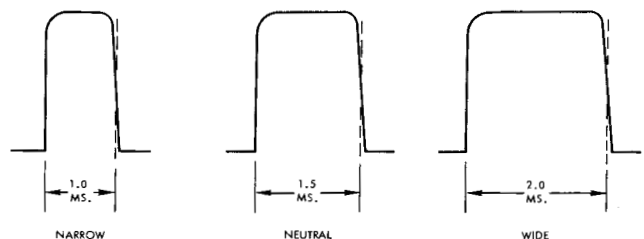

Figure 37. Channel Waveform Adjustments
- 180. Turn Tx ON. Connect scope probe between battery minus (on switch) and loop (4) on logic board. Waveform should appear as (4) on schematic diagram, to denote correct operation of multivibrator Q1, Q2.
- 181. Connect scope probe to loop (7). Set sweep time to 0.5 msec/cm. Adjust scope controls for stable picture. Compare result with waveforms shown on schematic figure 19 and those on figure 37.
- 182. Adjustments will now be made to obtain waveform timing shown in figure 37. With Channel 1 (aileron) controls, including front trim, in neutral, pulse width should be 1.5 milliseconds. If not, reposition trim lever (A) by hand slightly left or right until this width is obtained on scope. Make sure front controls remain at neutral.
- 185. If the difference in pulse width between steps 183 and 184 exceeds one millisecond total, rotate trim pot (B) clockwise a few degrees until total swing with full control movement is about one millisecond. Rotate trim pot (B) counterclockwise if pulse width swing is less than one millisecond.
- 186. Center Channel 1 front controls, then readjust trim lever (A) for 1.5 millisecond neutral pulse.
- 187. Check Channel 1 pulse again with controls in each extreme. Continue adjustment of trim pot (B) until total pulse swing is one millisecond, and trim lever (A) until correct pulse travel of one to two milliseconds is obtained.
- 188. Connect scope probe to loop (10). In same manner as above, adjust trim lever (C) and trim pot (D) until Channel 2 calibration is obtained.
- 189. On 2-stick, four-channel transmitter, similarly align Channel 3 by using loop (13), lever (E) and trim pot (F). Use loop (16), lever (G) and trim pot (H) to calibrate Channel 4.
- 190. To adjust Channel 3 control on single-stick and 3-channel transmitters, connect scope probe to loop (13). Observe pulse width variation while moving Channel 3 control lever from one extreme to the other. Trim pot (F) is used as before to obtain correct one millisecond pulse swing. To adjust for proper 1 - 1.5 - 2 ms throw, loosen brass nut holding 3rd channel pot, reposition pot slightly in direction desired, then tighten nut.